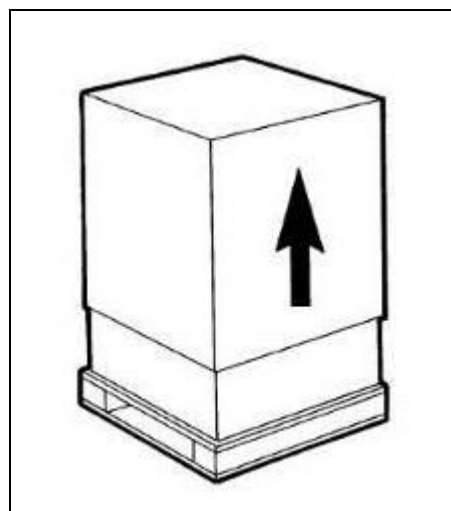

Fig. 18
- a) Remove the packing (fig.18) and preserve it in order to reuse for winter storage.